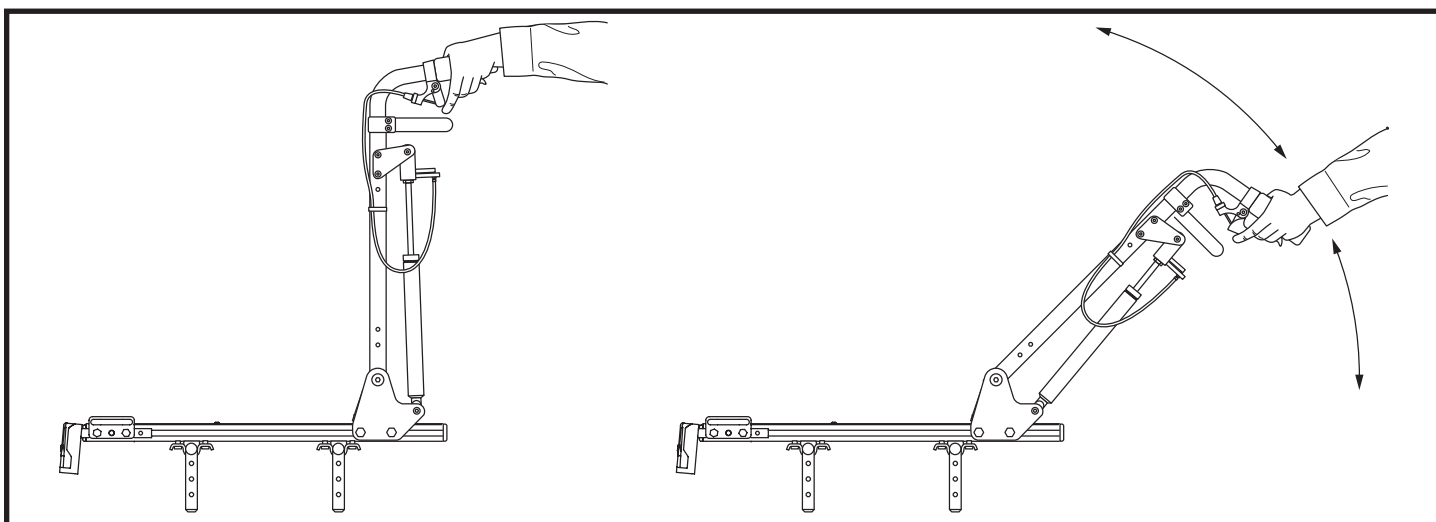

Figure 36. Manual Recline Angle Adjustment
2. Squeeze both of the recline release handles simultaneously, and position the seatback to the desired angle. **See figure 36.**